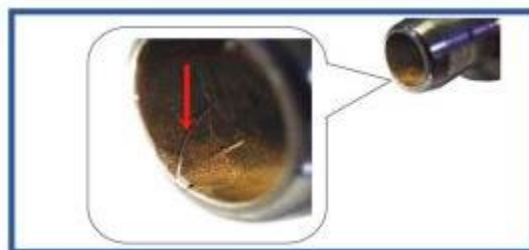

FIGURE 2
- Fractures propagate from the damage on the end of the Ball Tube (Check Figure 2)